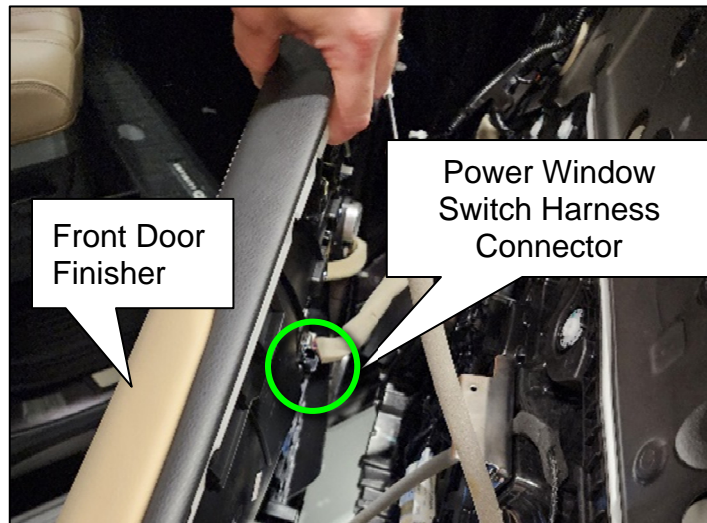

Figure 4
- Carefully place the Front Door Finisher near the Door and temporarily reconnect the Power Window Switch Harness Connector as shown in Figure 4.